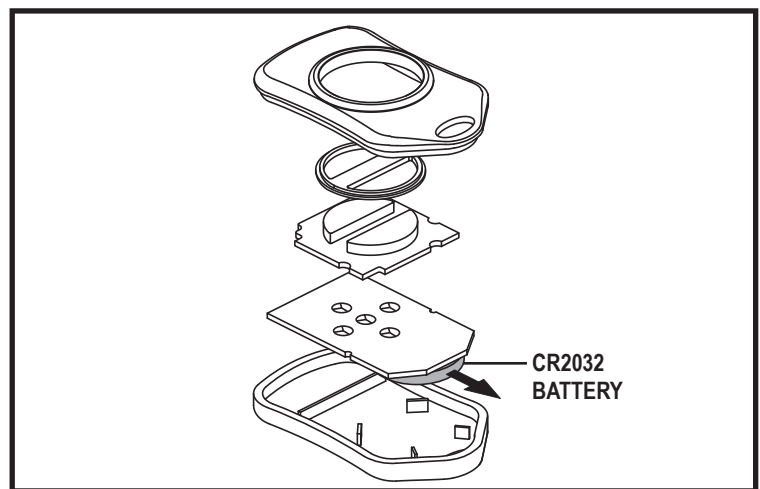

Figure 5. Battery Replacement
2. Remove the coin cell battery. **See figure 5.**